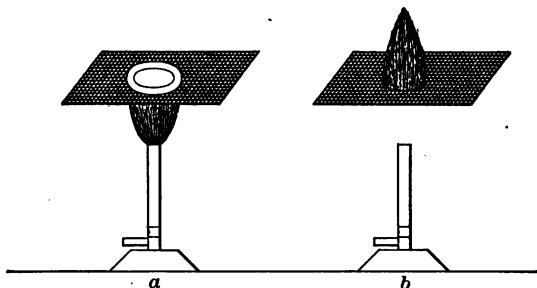

Fig. 12.
13. Light a Bunsen flame and press down with a fine wire gauze to 3 or 4 centimeters above the burner (Fig. 12 *a*).
14. Extinguish the flame, then relight the gas *above* the gauze (Fig. 12 *b*) and gradually lift the gauze till the gas will not burn.